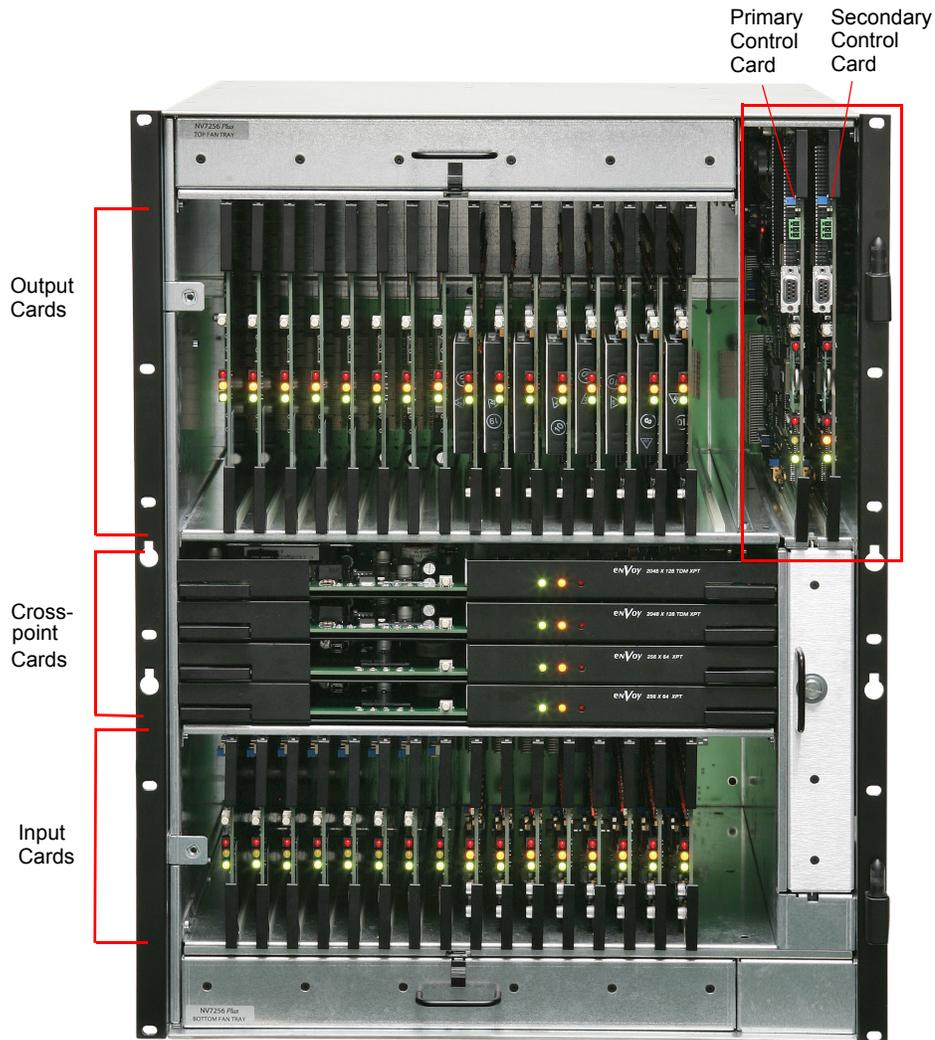
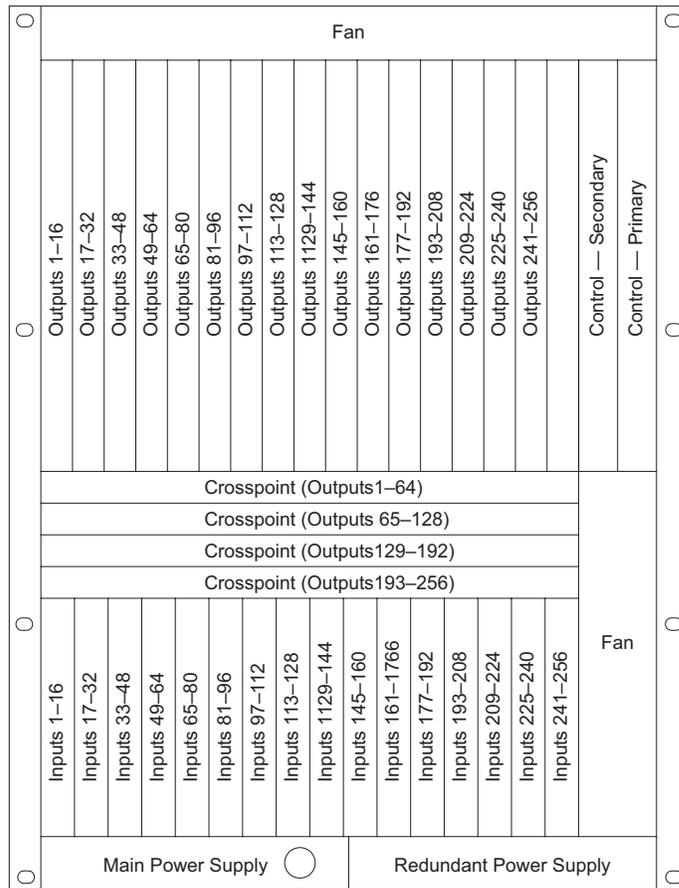

Figure 3-13. NV7256Plus Router with Modules Installed, Door Removed (Front View)
Figure 3-14. Location of Active Cards (Front View)
- 2 Facing the front of the router, insert the control card(s) in the two right-most slots of the upper region, as shown in Figure 3-13 and Figure 3-14 on page 48. If installing the optional System Clock module, install the single control card in the *primary* control card slot. (See Systems Clock Module \(Optional\) on page 48.)
- 3 Facing the front of the router, insert the output cards in the upper, vertical slots, as shown in Figure 3-13 on page 47.
- 4 Facing the front of the router, insert the crosspoint cards in the middle, horizontal slots, as shown in Figure 3-13 on page 47.
- 5 Facing the front of the router, insert the input cards in the lower, vertical slots, as shown in Figure 3-13 on page 47.
- 1 Locate the secondary (redundant) control card slot, as shown in Figure 3-13 on page 47. The secondary control card slot is to the left of the primary control card slot.